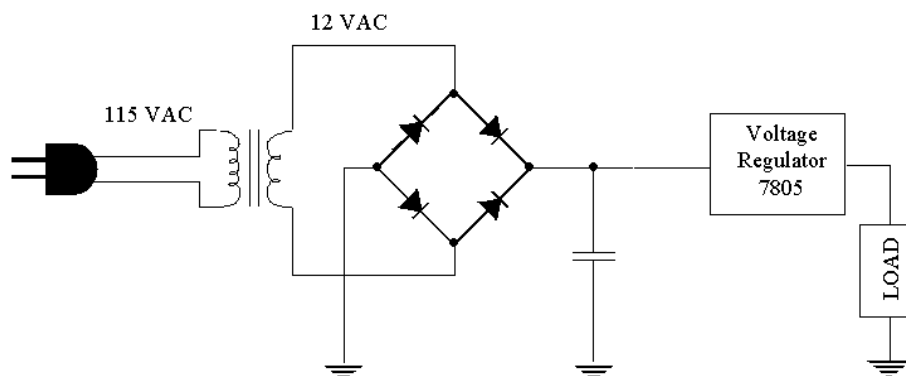

Figure 4.4.10: Regulated 5VDC Power Supply
Step 5: regulating the power supply. You may have noticed that the voltage level drops with increased current drawn by the load. This makes a poor voltage source. To improve this, we will regulate the output voltage at 5V , using the 7805 voltage regulator that was used in Lab 1. The final circuit is shown in Figure 4.4.10. Build this circuit and run the motor, again observing the voltage across the motor with your oscilloscope.